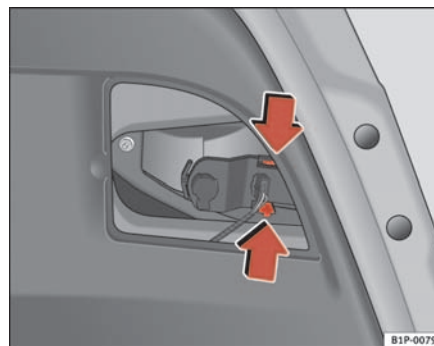

Fig. 164 Removing the lampholder
- Take the lampholder out pressing on the securing pins and extract it outwards ⇒ page 236, fig. 164.